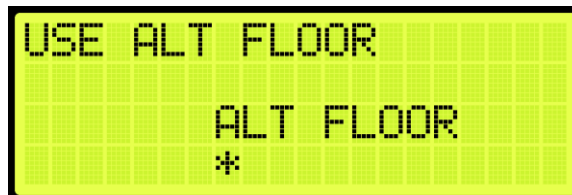

Figure 610: USE ALT FLOOR Menu
5. From the USE ALT FLOOR menu, scroll to select alternate landing or main recall landing (See Figure 610).